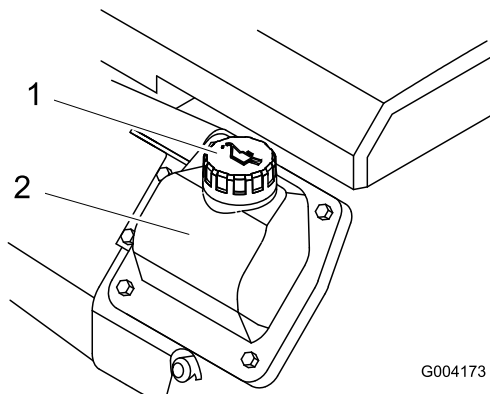

Figure 16
- If the oil level is low, clean around the oil filler cap and remove the cap (Figure 16).